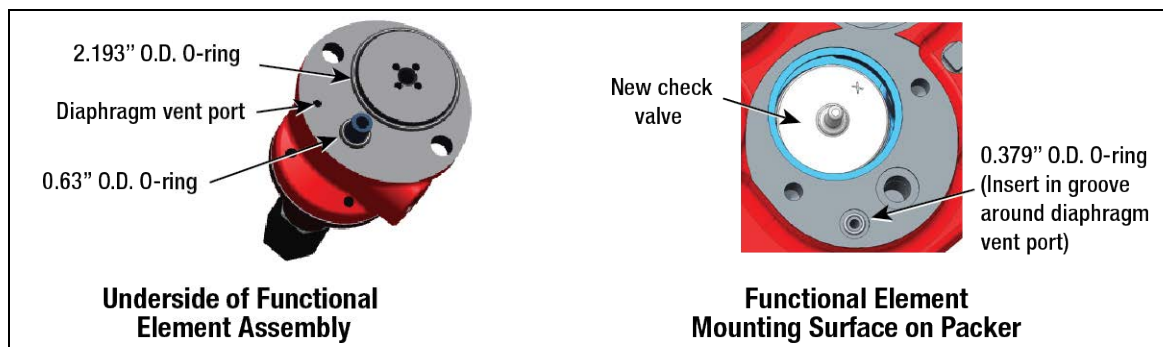

Figure 9. Functional Element O-Rings
15. Be certain all mating surfaces are clean on the body of the Functional Element and the Packer. Lubricate the three new functional element O-rings from the kit with petroleum jelly. Install the 2.193" O.D. and 0.63" O.D. O-rings in the bottom of the functional element as shown in Figure 9. Install the new 0.379" O.D. O-ring in the groove around the packer's diaphragm vent port.